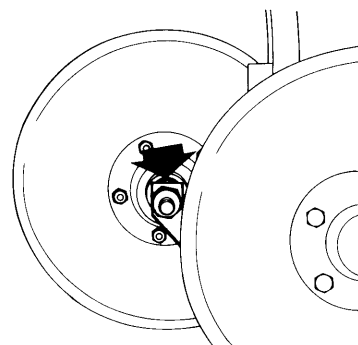

Figure 13
- 4/ Remove the coulters axle nut and remove the 25mm spacer welded to the walking beam. (see figure 13) (Your Agrowdrill dealer can also exchange standard 175mm walking beam assemblies 127mm non-spacer assemblies. There is no charge for this service.)